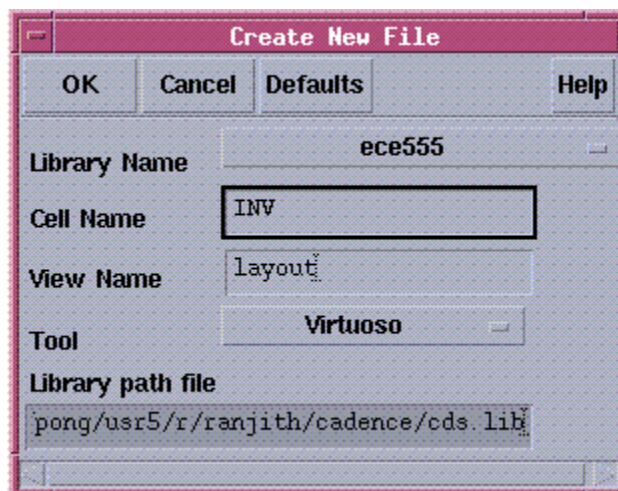

Fig. 1. Creating layout view of inverter
- To create layout view of our inverter, go to Library Manager and create a new cell view, as shown in Fig. 1.